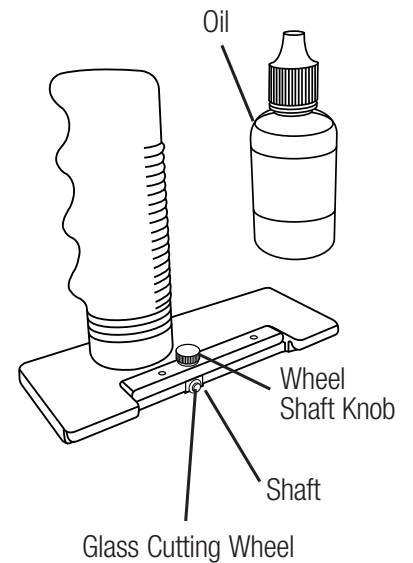

Fig. 42
2. Slide rail stops to top of rail or remove (**Fig. 42**).